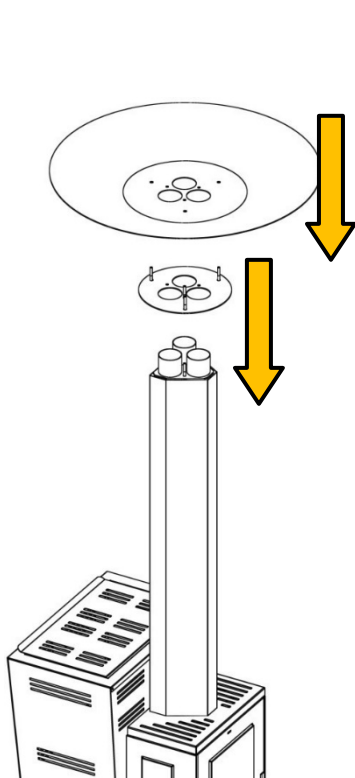

Fig. 4
- 3 Place the support plate and the lower dish over the pipes, then secure everything with the supplied wing nuts (Fig.4)